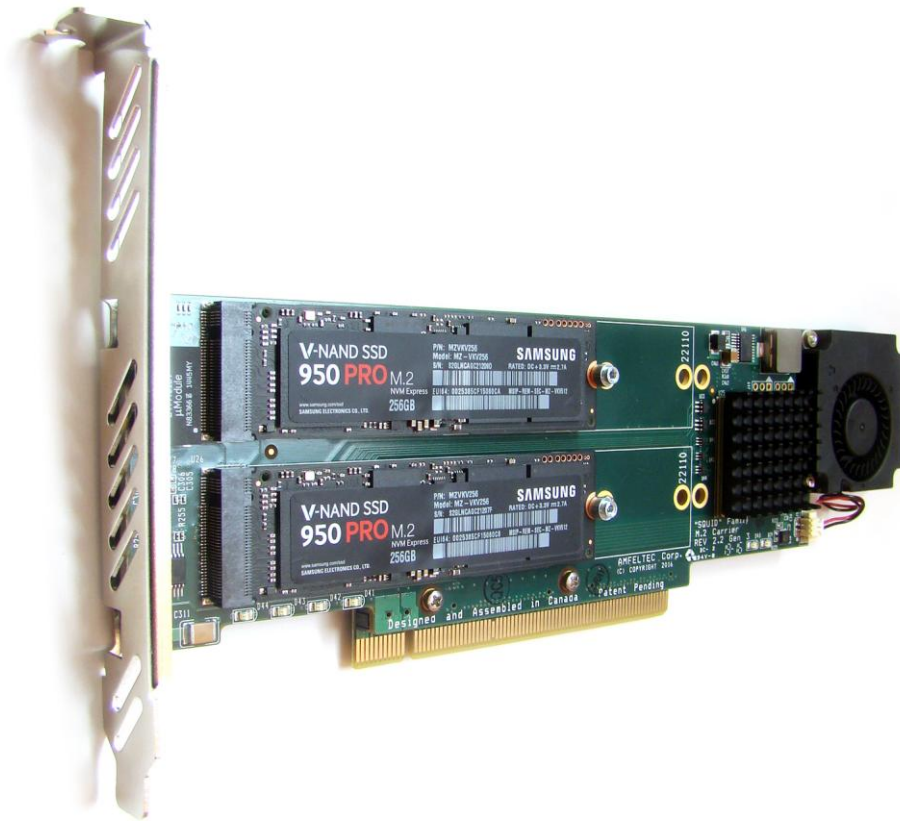

Figure 1: PCI Express Gen 3 Carrier Board for 4 M.2 SSD modules
1. PCI Express Gen 3 Carrier Board for 4 M.2 modules (Figure 1,2,3)